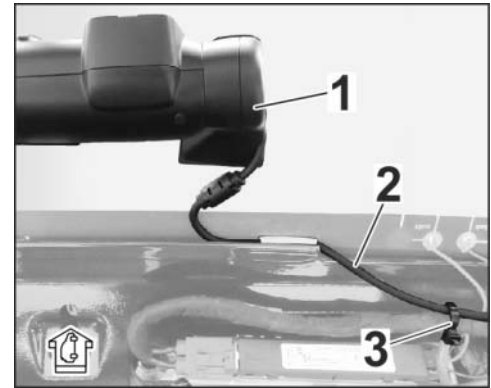

Figure 21
3.4.2 Secure installed wiring harness in vehicle with cable ties to existing wiring / components ensuring no abrasion or tensile stress. ⇒ *Figure 21*